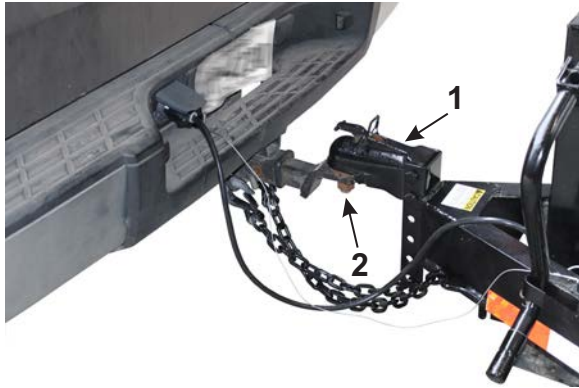

Figure 3-6 – Trailer on Hitch
5. Using the trailer jack, slowly lower the coupler (1, Figure 3-6) onto the hitch ball (2, Figure 3-6),